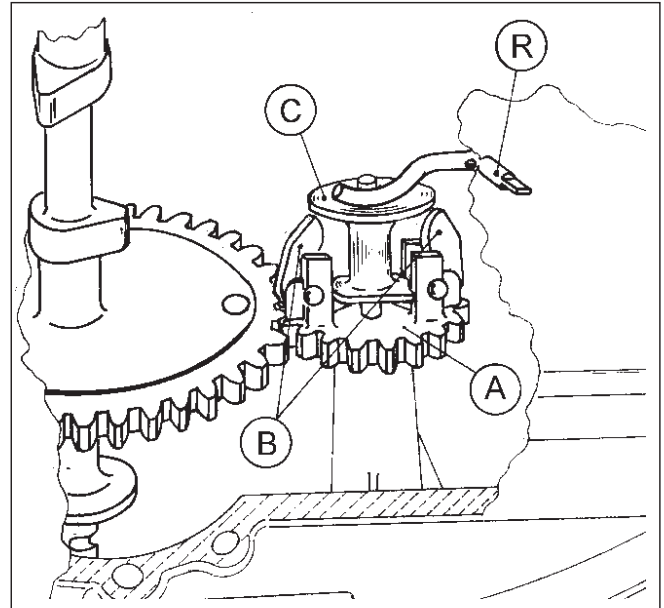

Fig. 8
All four stroke engines are fitted with centrifugal type governor (Fig 8). This consists of a plastic gear «A» which is caused to rotate by the camshaft gear.
b) STANDARD GOVERNOR (FIG 8)